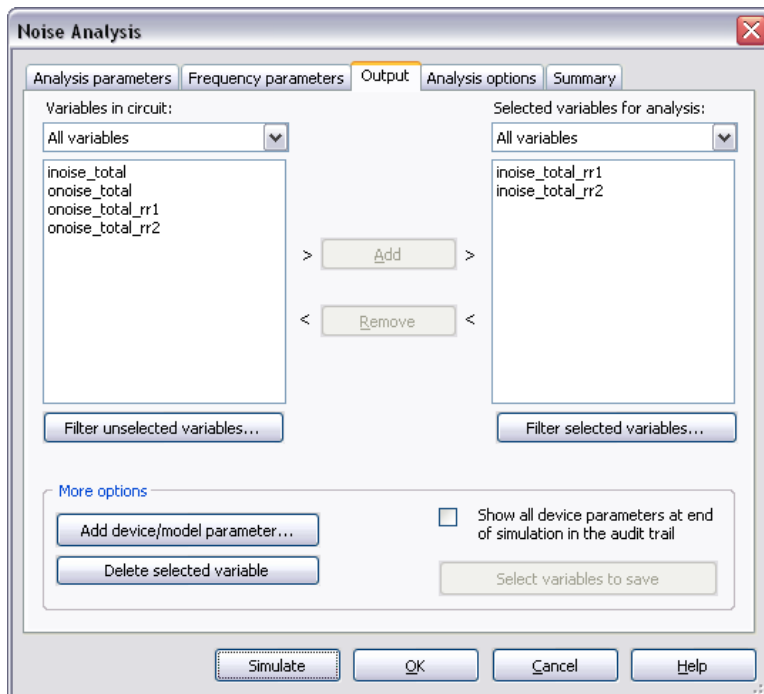

Figure 4. Output variables for the Noise Analysis.
4. Repeat this process for the **inoise_total_rr2** variable. The **Output** tab will look as shown in Figure 4.